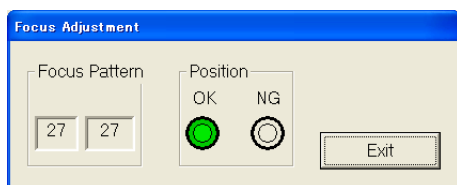

Fig. 4-6-3
- 3) Set the focus position to infinity end, then check that the OK (Green) indicator of “Position” lights as shown in Fig. 4-6-3.